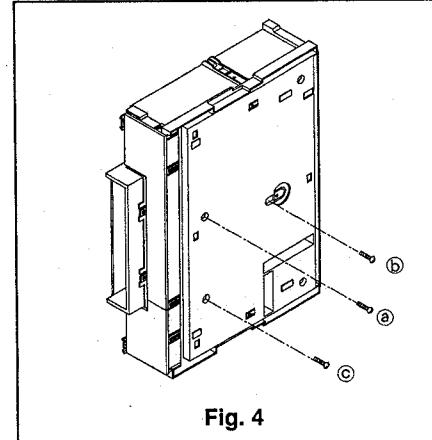

Fig. 4
- ③ Remove the three fastening screws (Ⓐ, Ⓛ and Ⓜ) on the bottom of the set shown in Fig. 4.